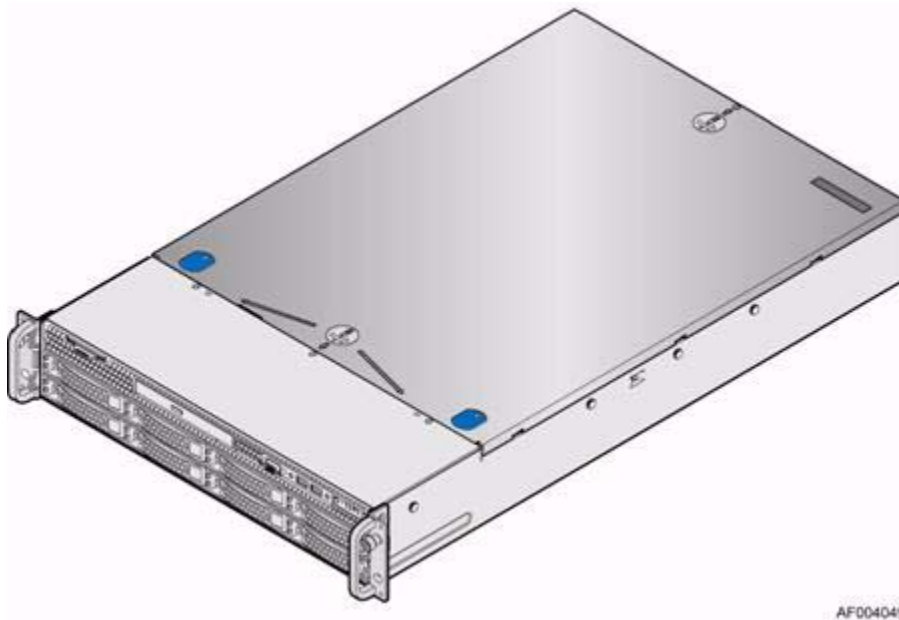

Figure 1-1 SGI Rackable C2108-RP2 Server
- C2108-RP2 (8 hard disk drives as shown in Figure 1-1)